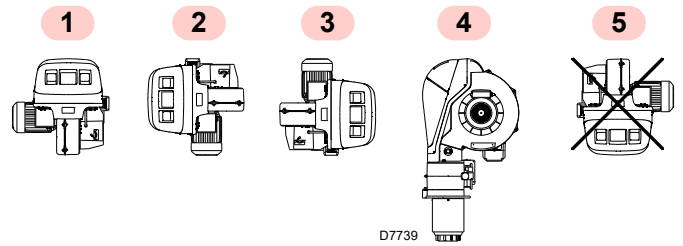

Fig. 14
- the category of the appliance/countries of destination (I).
- The burner is designed to operate only in positions 1, 2, 3 and 4 (Fig. 14).